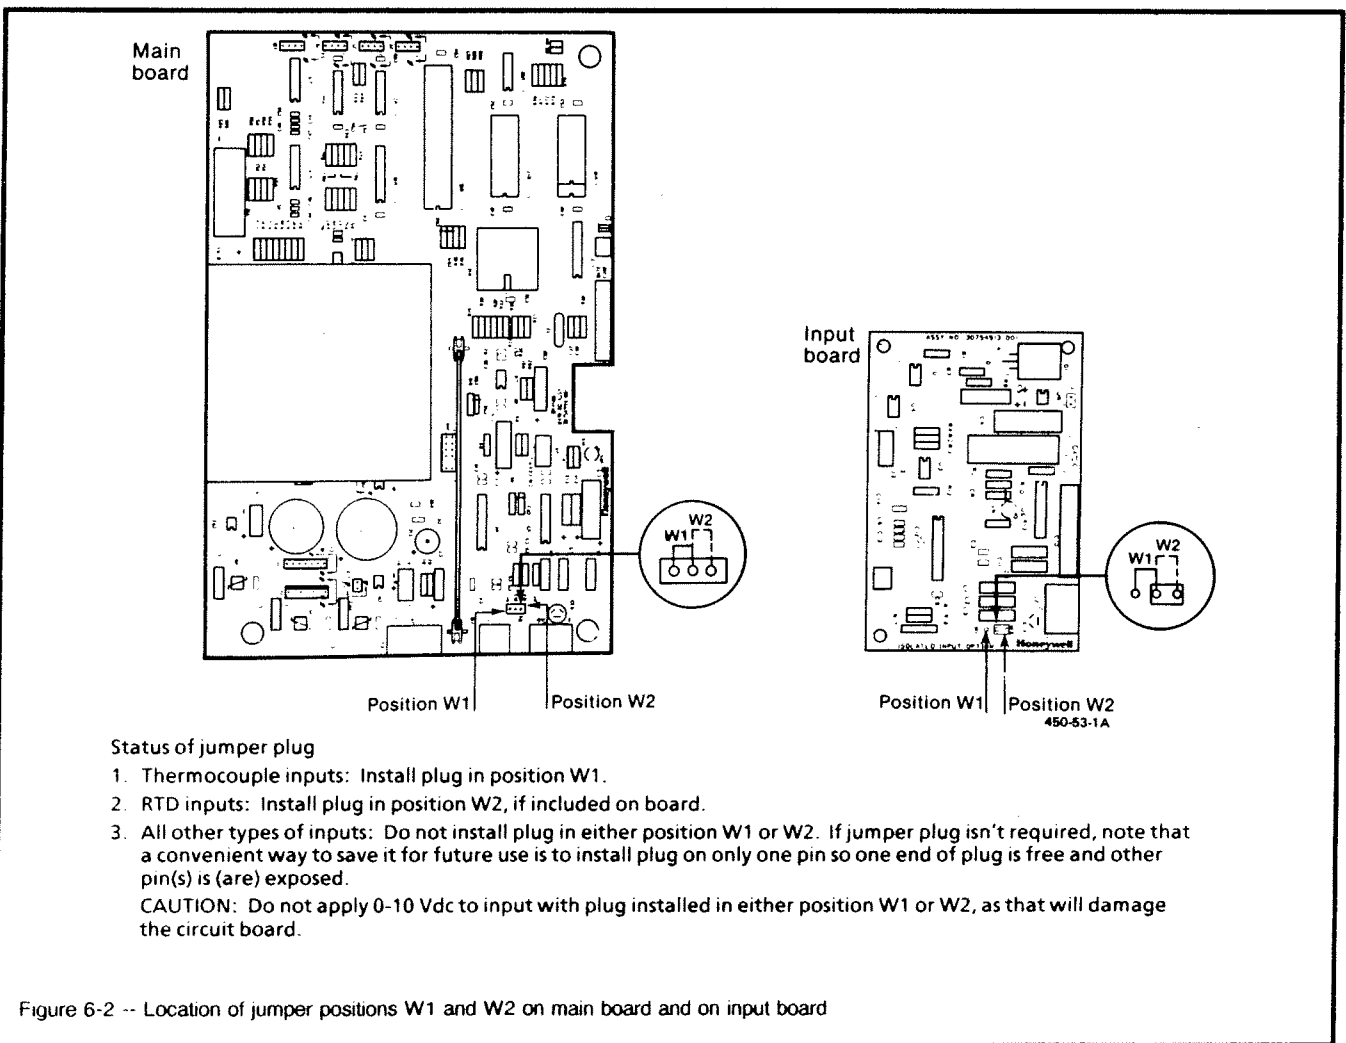

Figure 6-2 -- Location of jumper positions W1 and W2 on main board and on input board
- Before starting the calibration activity, check that the jumper plug on the applicable circuit board (i.e., main board or input board) is either installed in the proper jumper position (in W1 or in W2, if included on the board) for the particular sensor being used, or has been removed from both of these jumper positions, as applicable. (Refer to the Wiring section of this manual.) See Figure 6-2 for the location of jumper positions W1 and W2 on these circuit boards, and the status of these jumpers for each type of input sensor.